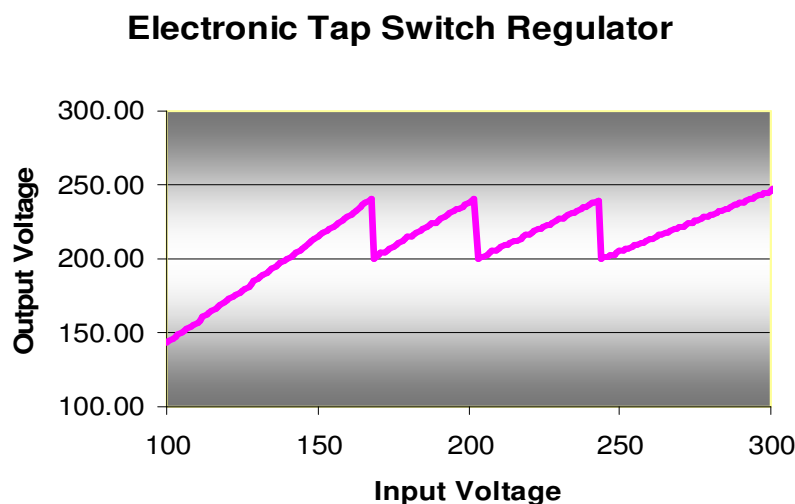

Fig 3: Input Output Characteristics of Electronic Tap Switch Regulator
8.2 Electronic Tap Switch Regulator (ETSR): Multi tap auto or two winding transformer is used to regulation action. These regulators ensure the output voltage within a range. In India, the output voltage range is limited between 200 to 240 vac, 50Hz. The typical input output Voltage relation is shown in Fig 3. In general, input voltage is sensed and the control action will switch to suitable tap. ETSR switch full load from one tap to other. As per IS 8448 standard ETSR is limited to 5kVA per phase. ETSR is not recommended for highly inductive or capacitive load. If it is used it may lead to produce switching surge and the other appliances which are connected parallel to it, will be exposed to these surges. It is also not recommended to use ETSR at high fluctuating sites. But at all this is cheapest one could be available in market.